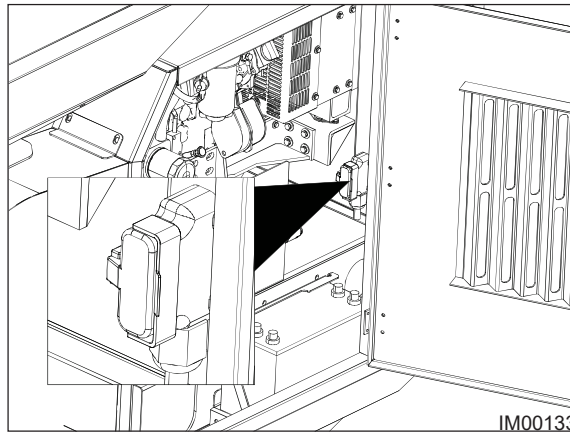

Fig. 6.4 - Umbilical Plug Socket
4. Connect the umbilical lead to the plug socket inside the engine compartment (Fig: 6.4) and secure.